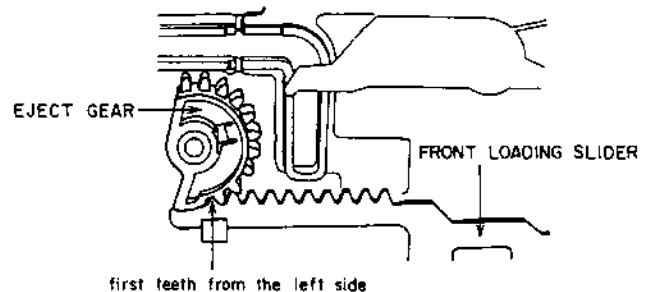

Fig. 4-14
- 1) Confirm that the EJECT GEAR is in the correct position as shown in Fig.4-14.